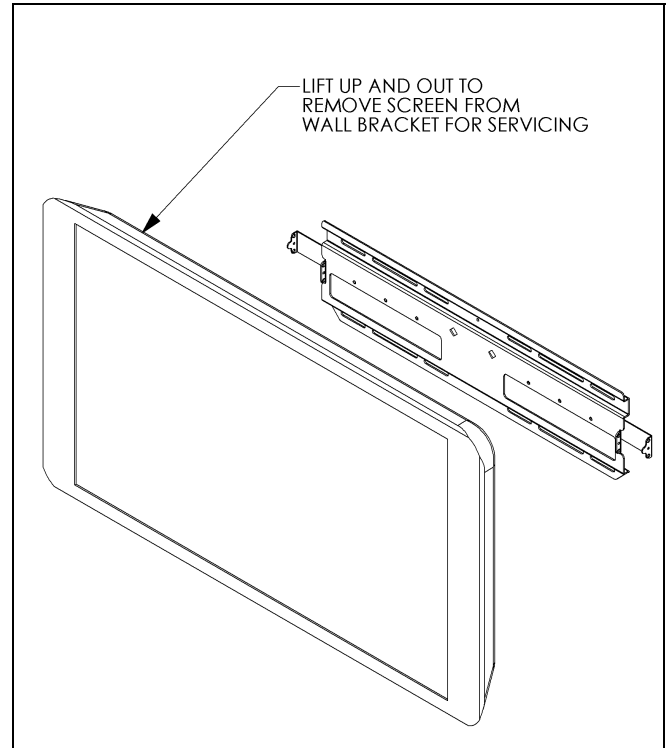

Figure 9
3. With an assistant, lift the display up and off the wall plate to remove the display from the wall. (See Figure 9)